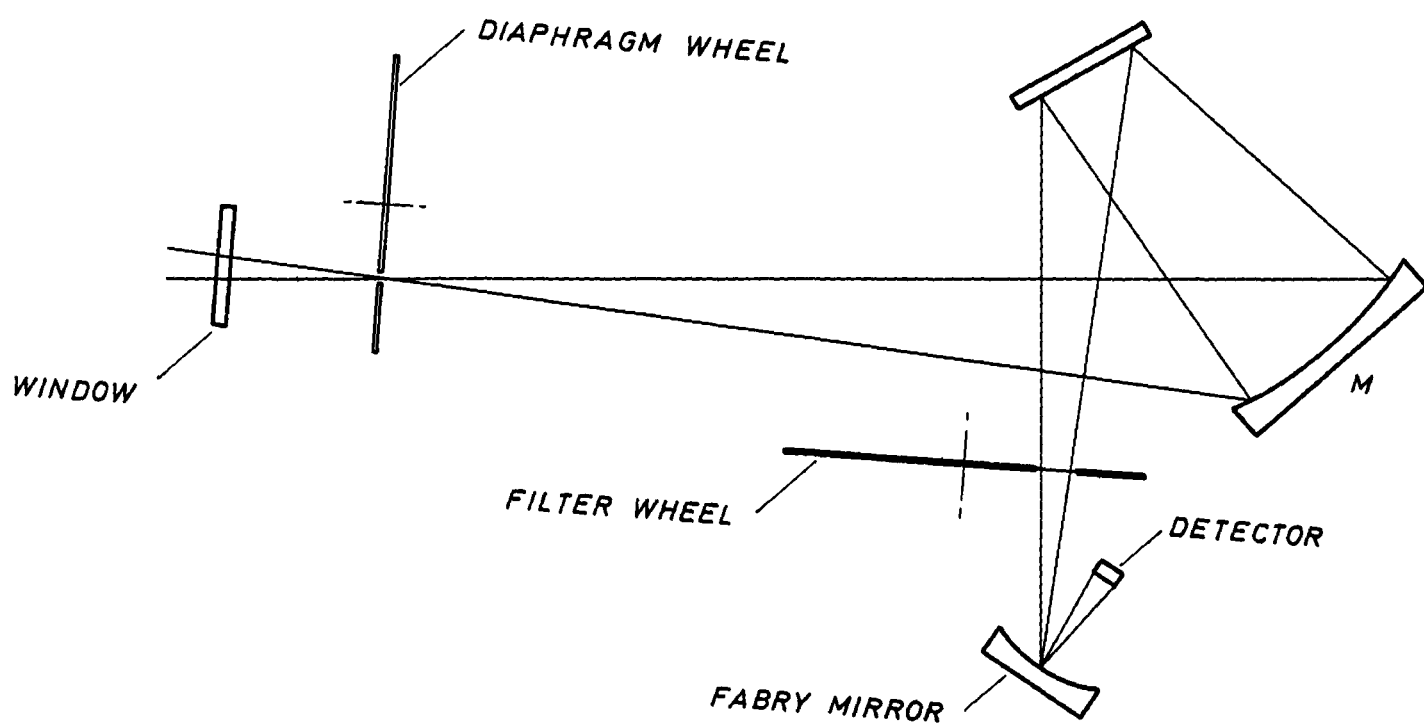

Figure 6.1: Schematic of IR photometer cold optics
Both detector units (InSb and Bolometer) are built into HD3 (L) dewars supplied by Infrared Laboratories and have identical optical and mechanical designs. Fig. 6.1 shows the optical paths and the location of the filter and diaphragm wheels.